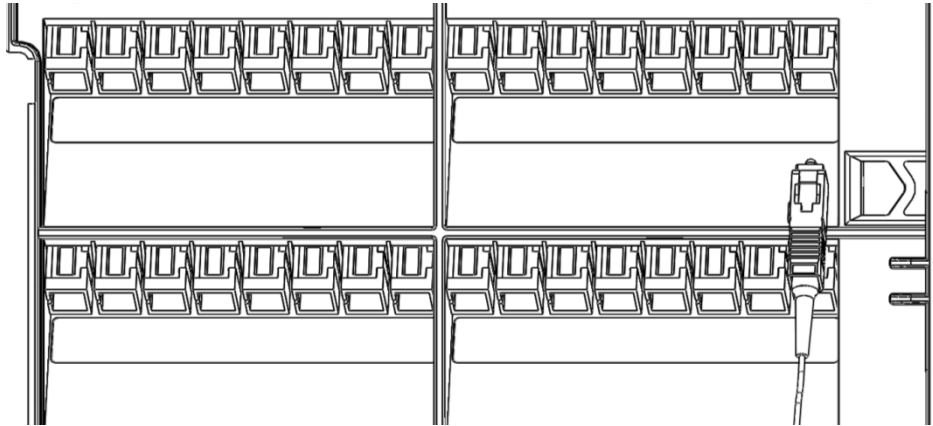

Fig. 29
3.8.2. Insert the connectors into the adapters on the rear of the panel (Fig.29)